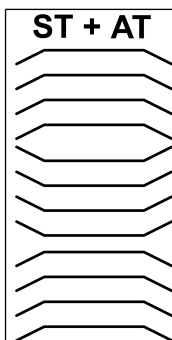

Fig.14: Location of disk springs
1. Place the head plate (4) on the intermediate plate (3) according to the felt-tip pen marking.
2. Put on the disk springs (5) (for location, see Fig. 14).
3. Put on the cap nuts (6) and tighten them (tightening torque: 7 Nm).